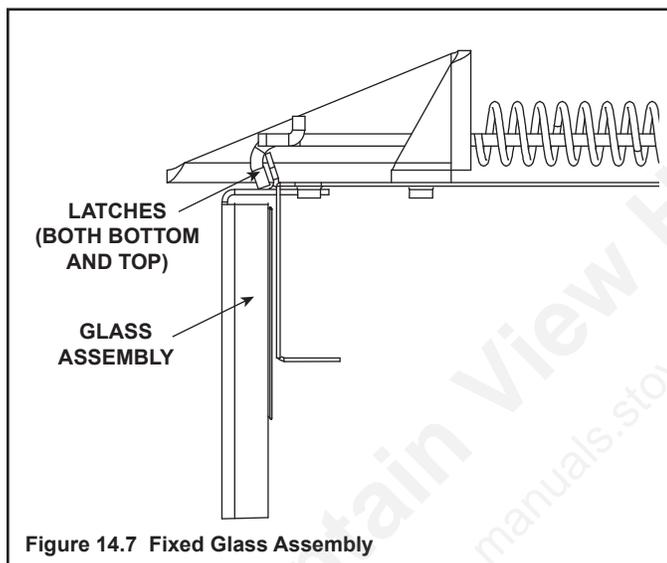

Figure 14.7 Fixed Glass Assembly
- Pull the four glass assembly latches out of the groove on the glass frame. Remove glass door from the appliance (see Figure 14.7).